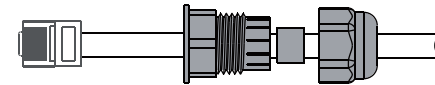

Figure 4.5-4 Remotely close the cable connection
**Step 3-2 For Remote Shutdown.** Run the cable through the steel plate. Then wire from pins 5 and 6. Table 4.6-1 describes the 6-pin port definition, Wiring is shown in Figure 4.5-4.